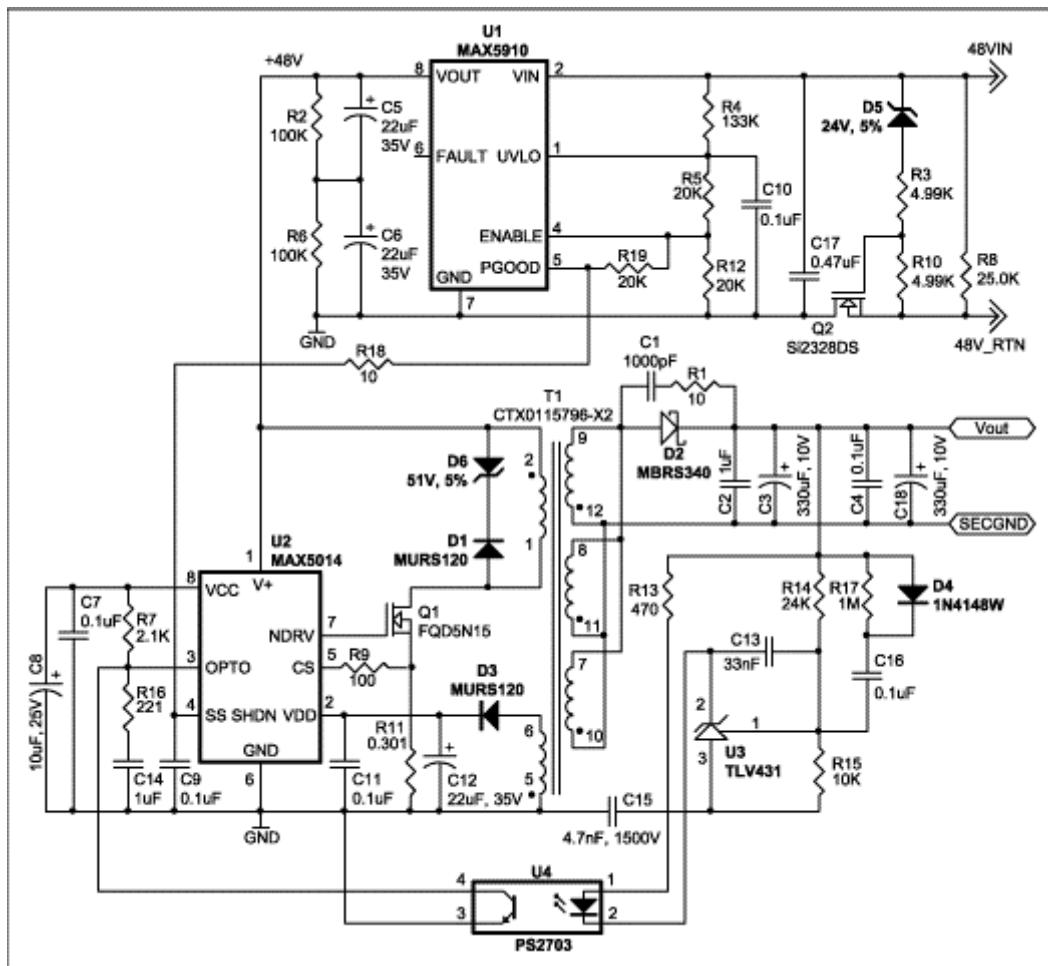

Figure 5. Six watt single-output power supply.
Figure 5 shows a schematic for a 6W single output power supply using the MAX5910 hot-swap IC along with the MAX5014 PWM IC.
**Table 2. Component List for 6W Power Supply Circuit of Figure 5**
Performance data for circuit in Figure 5.